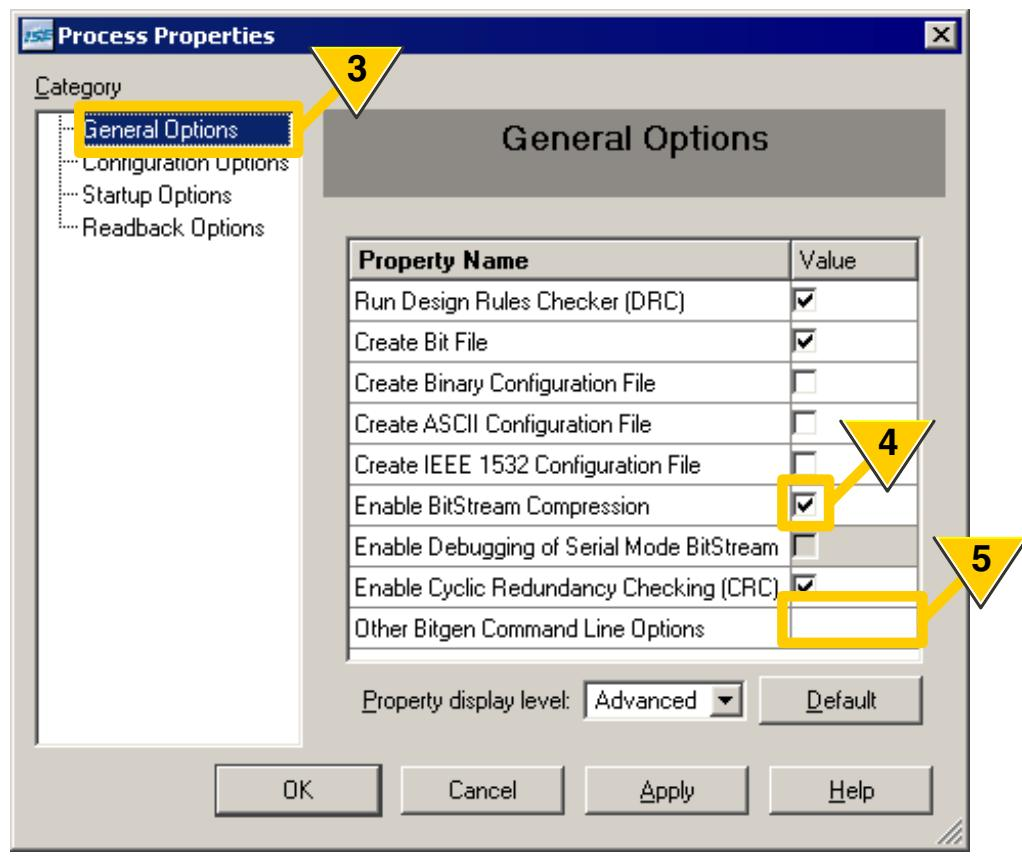

Figure 1-6: Bitstream Generator General Options
3. Click **General Options**, as shown in Figure 1-6.